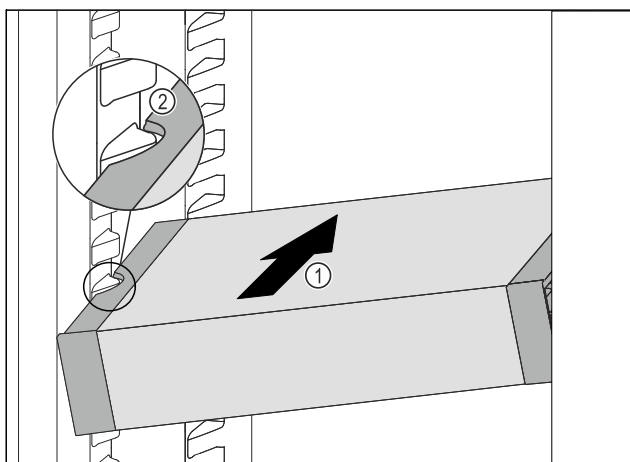

Fig. 99
- Insert the VarioSafe into the fridge section at an angle Fig. 99 (1) until the recesses in the side Fig. 99 (2) of the VarioSafe are at the level of the support rib in the fridge section.